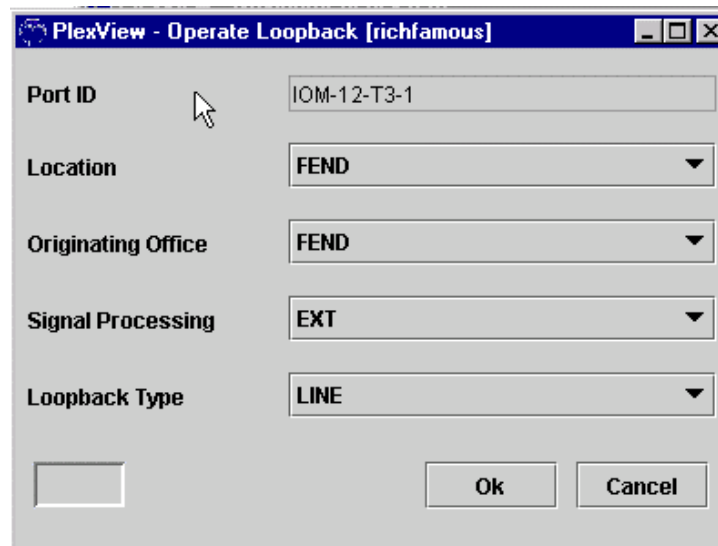
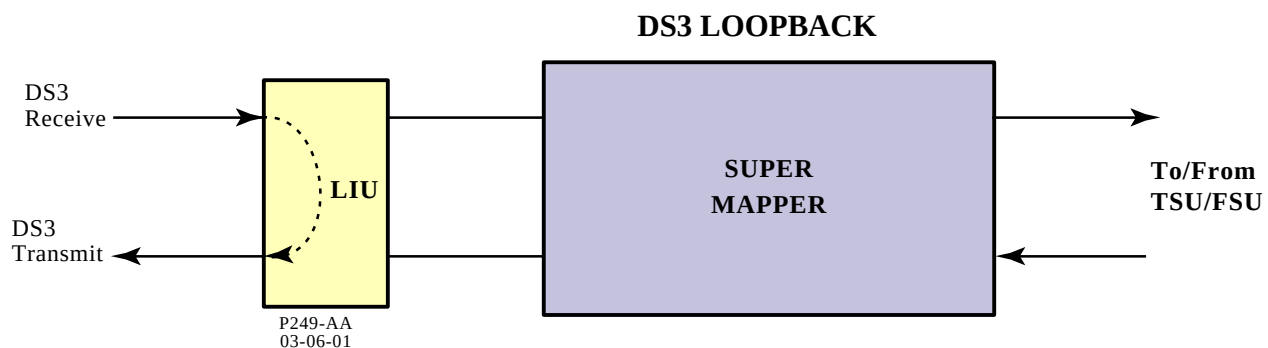

Figure 8. T3 Loopbacks
Figure 9. DS3 Loopback
23. Put the port in loopback. Double-click *Switch*, *Switch name*, *Cards*, desired *IOM*, *Ports*, desired port, and *Ports*. Right-click desired port, select *Operate Loopback*. Make changes if necessary and then click *Ok*. See Figure 8. See Figure 9 for illustration of DS3 loopbacks.